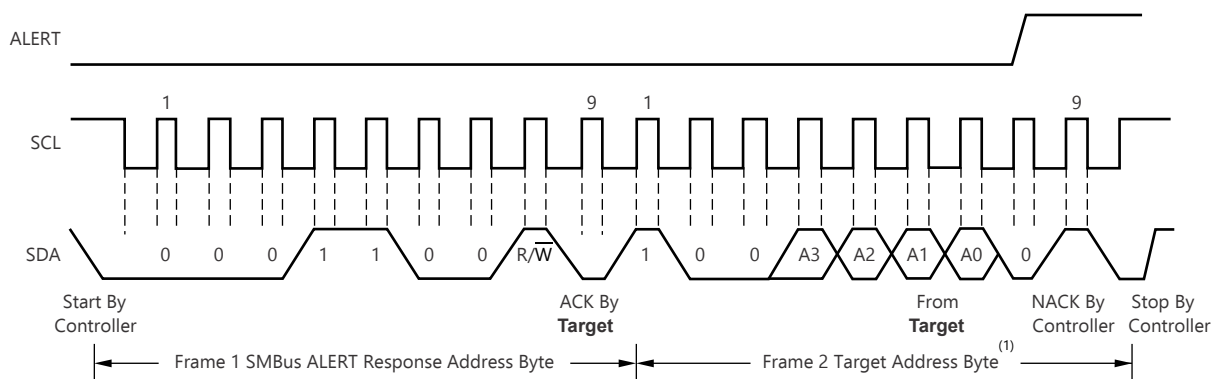
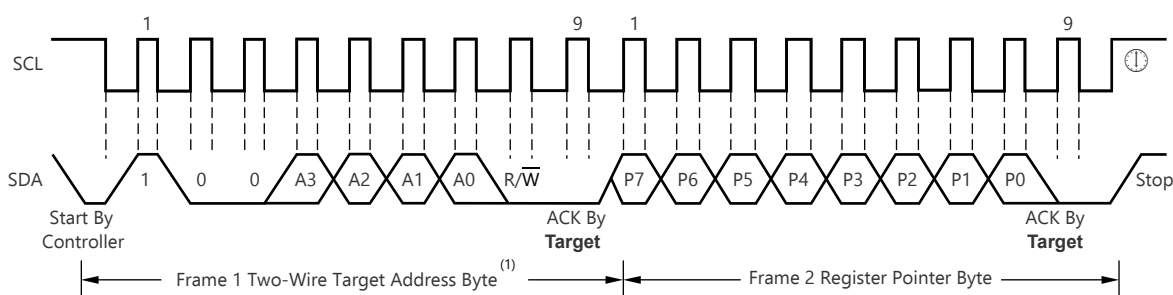

图 6-6. Timing Diagram for SMBus ALERT
图 6-7. Typical Register Pointer Set
Accessing a specific register on the INA226 is accomplished by writing the appropriate value to the register pointer. Refer to 表 7-1 for a complete list of registers and corresponding addresses. The value for the register pointer (as shown in 图 6-7) is the first byte transferred after the slave address byte with the R/ \bar{W} bit low. Every write operation to the device requires a value for the register pointer.
2. Read data is from the last register pointer location. If a new register is desired, the register pointer must be updated. See 图 6-7.
图 6-6 shows the timing diagram for the SMBus Alert response operation. 图 6-7 illustrates a typical register pointer configuration.